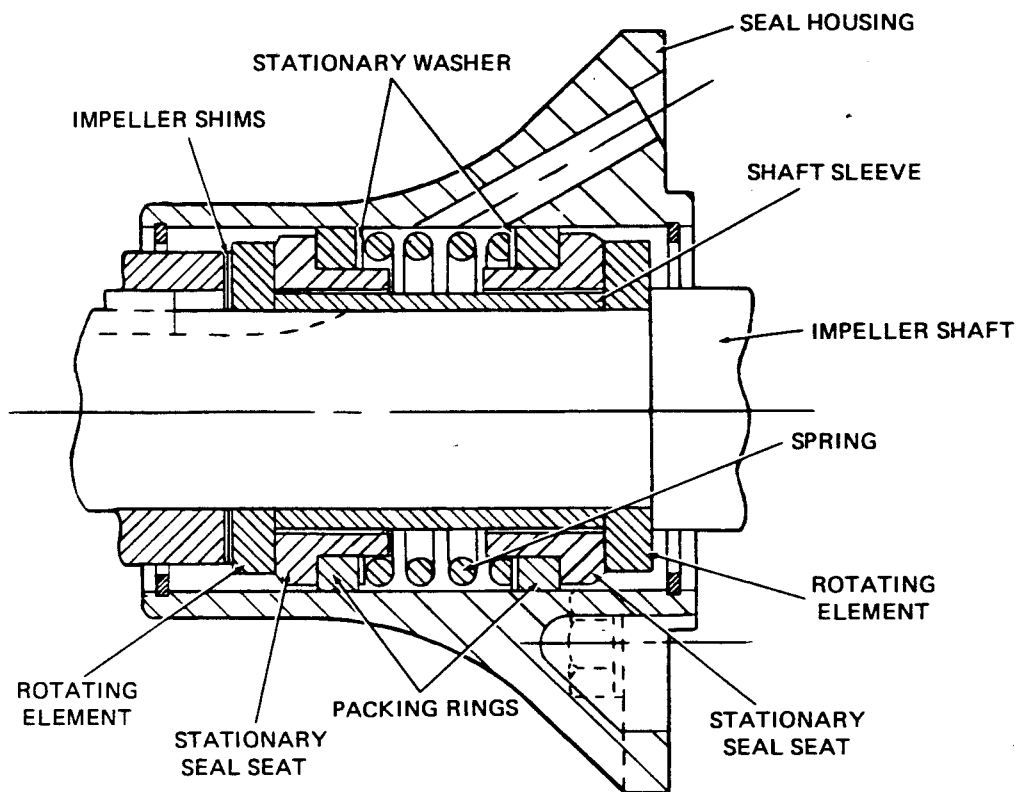

Figure 2. GS01250 Seal Assembly
**Seal Reassembly****(Figure 2)**
To ease installation of the seal, lubricate the packing rings and seal housing bore with water or a very **small** amount of oil, and apply a drop of light lubricating oil on the finished faces. Assemble the seal as follows, (see Figure 2).